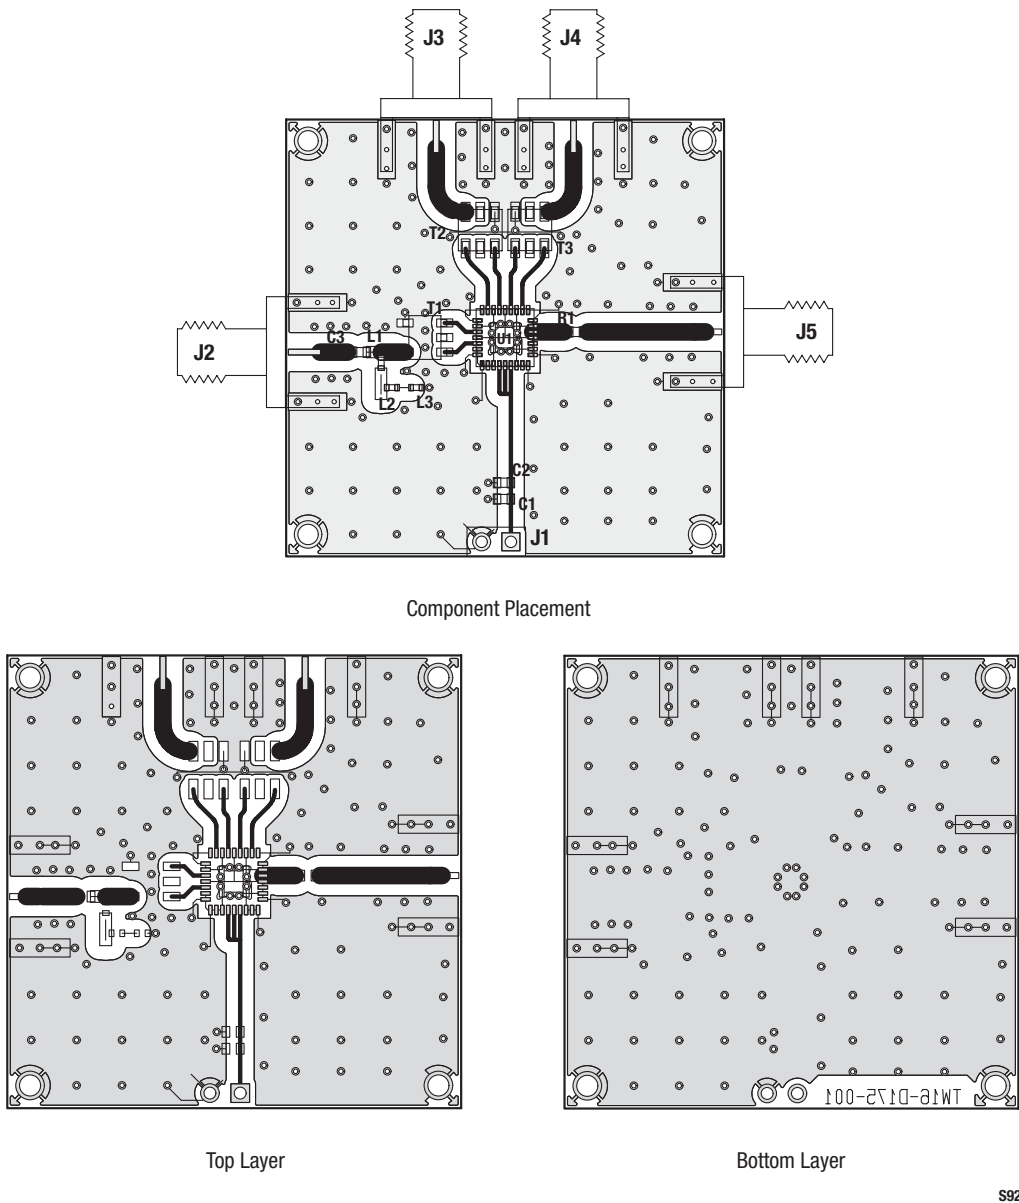

Figure 65. SKY73012 Evaluation Board Assembly Diagram (Custom Frequency) (Top View)
- Custom Frequency: Figure 64 (schematic), Table 7 (component values), and Figure 65 (assembly diagram)